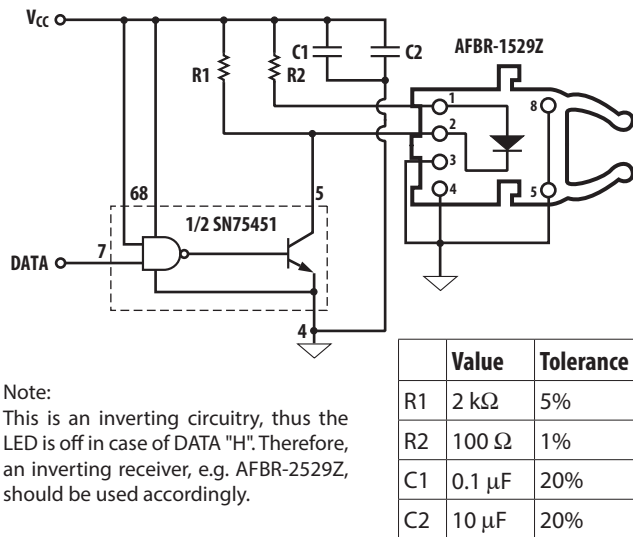

Figure 3. Recommended drive circuit Top View
- Optical power measured with polished connector end face at the end of 0.5 meters of 1 mm diameter POF with a numerical aperture (NA) of 0.5, or of 200  $\mu\text{m}$  diameter PCS, with NA=0.37.
- Using the recommended drive circuitry according to Figure 3.